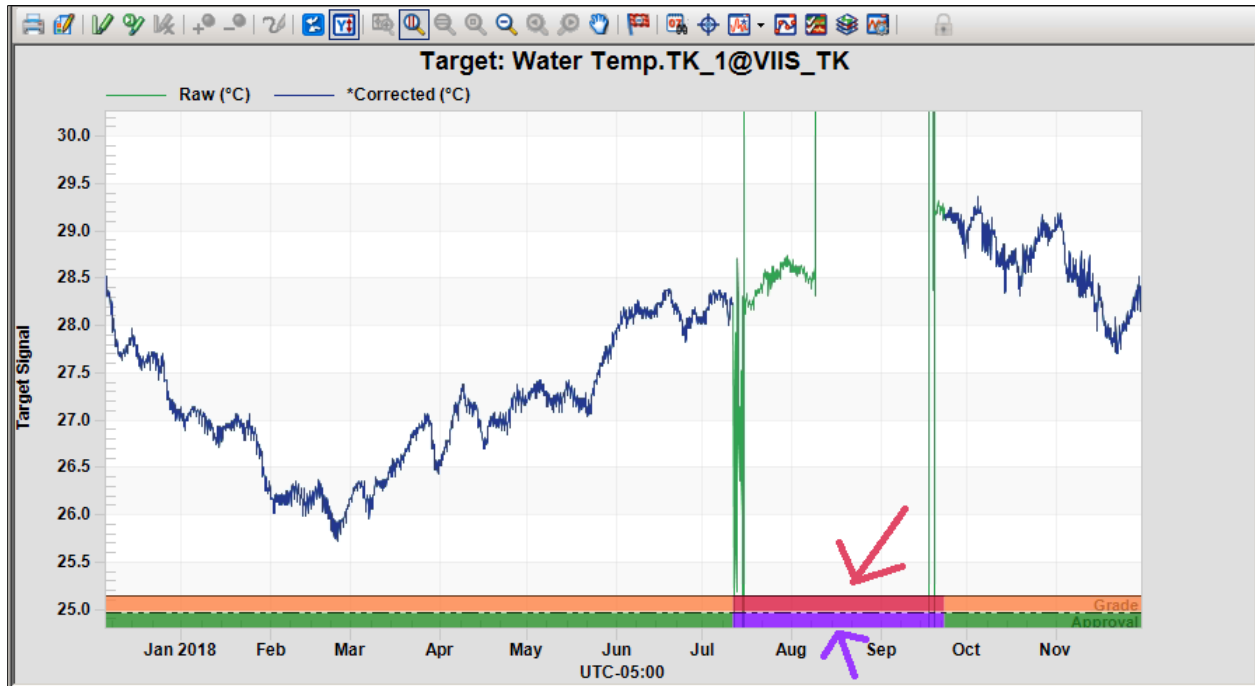

Figure 9. A zoomed-in screenshot showing the Aquarius Data Correction window with a region of data graded as unusable and approval rating set as rejected.
11. In the event that there is erroneous data in the dataset, the erroneous sections of the data will need to have the Grade set to “-2 – UNUSABLE” and Approval set to “4 – Rejected.” The example below shows how a logger had questionable readings for a period of about two months and for that section of data the Grade was set to “-2 – UNUSABLE” (red) and Approval set to “4 – Rejected” (purple; (Figure 9).